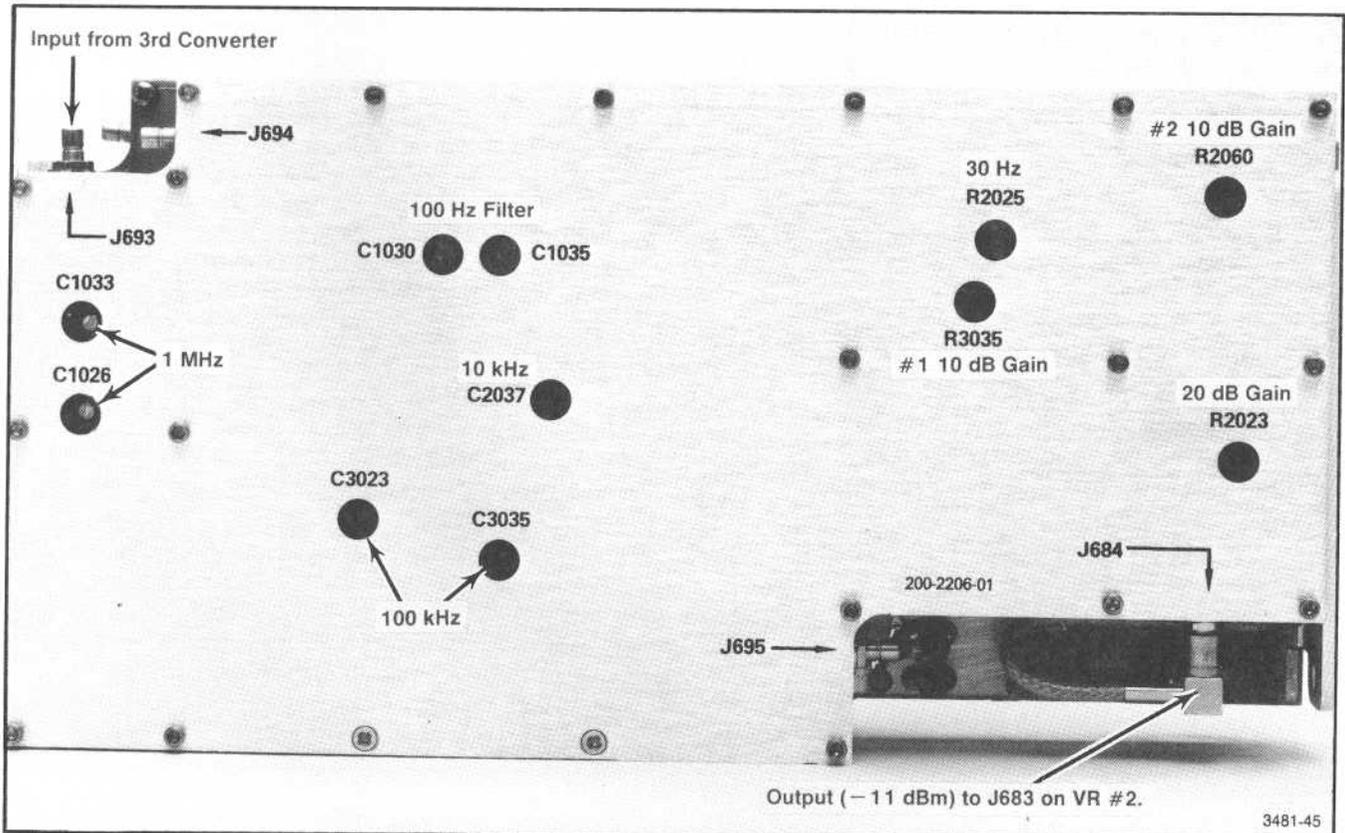

Fig. 3-39. Calibration adjustments on VR #1 module.
o. Now, switch the FREQ SPAN/DIV to 50 kHz, the RESOLUTION BANDWIDTH to 100 kHz, and adjust the 100 kHz filter with C3023 and C3035 (Fig. 3-39) for filter shape and frequency centering.
q. Switch the RESOLUTION BANDWIDTH to 1 MHz and FREQ SPAN/DIV to 500 kHz; then adjust the 1 MHz filter response and centering with C1033 and C1026 (Fig. 3-39).
s. Adjust the 10 kHz filter with C2037 (Fig. 3-39) for best filter shape.
t. Switch the RESOLUTION BANDWIDTH to 100 Hz and the FREQ SPAN/DIV to 500 Hz. Adjust the 100 Hz filter with C1030 and C1035 (Fig. 3-39) for amplitude and waveshape.
d. Disconnect P693 from the input to VR#1 module (Fig. 3-39) and apply a 10 MHz, -35 dBm signal from the signal generator through a bnc-to-Seaelectro adapter to J693. Adjust the generator frequency to peak the signal.
i. Adjust the 10 dB Gain R3035 (Fig. 3-39) of VR#1 so the signal amplitude is 7 divisions.
k. Adjust the 20 dB Gain R2023 (Fig. 3-39) for a 7 division signal amplitude.
m. Adjust the 10 dB Gain R2060 (Fig. 3-39) for a 7 division signal amplitude.